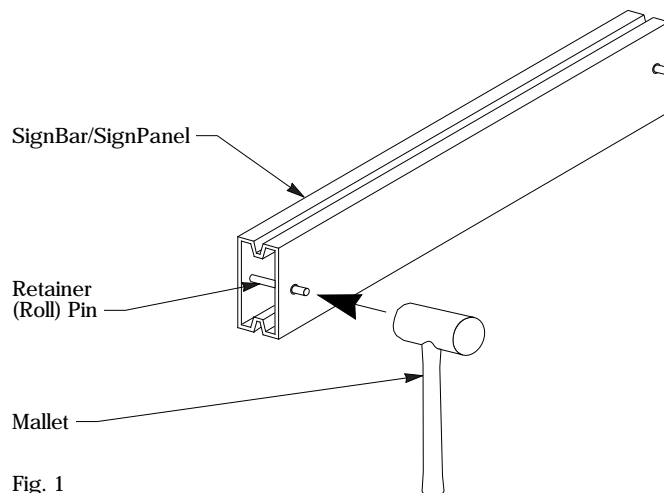

Fig. 1
2. One Retainer Pin must be inserted into each end of the Top and Bottom Message Bars. Note that holes are provided in all bars, but only top and bottom bars require pins. Using a mallet, gently tap each pin into place (Fig. 1). Assure pin protrudes equally from each side of message bar.